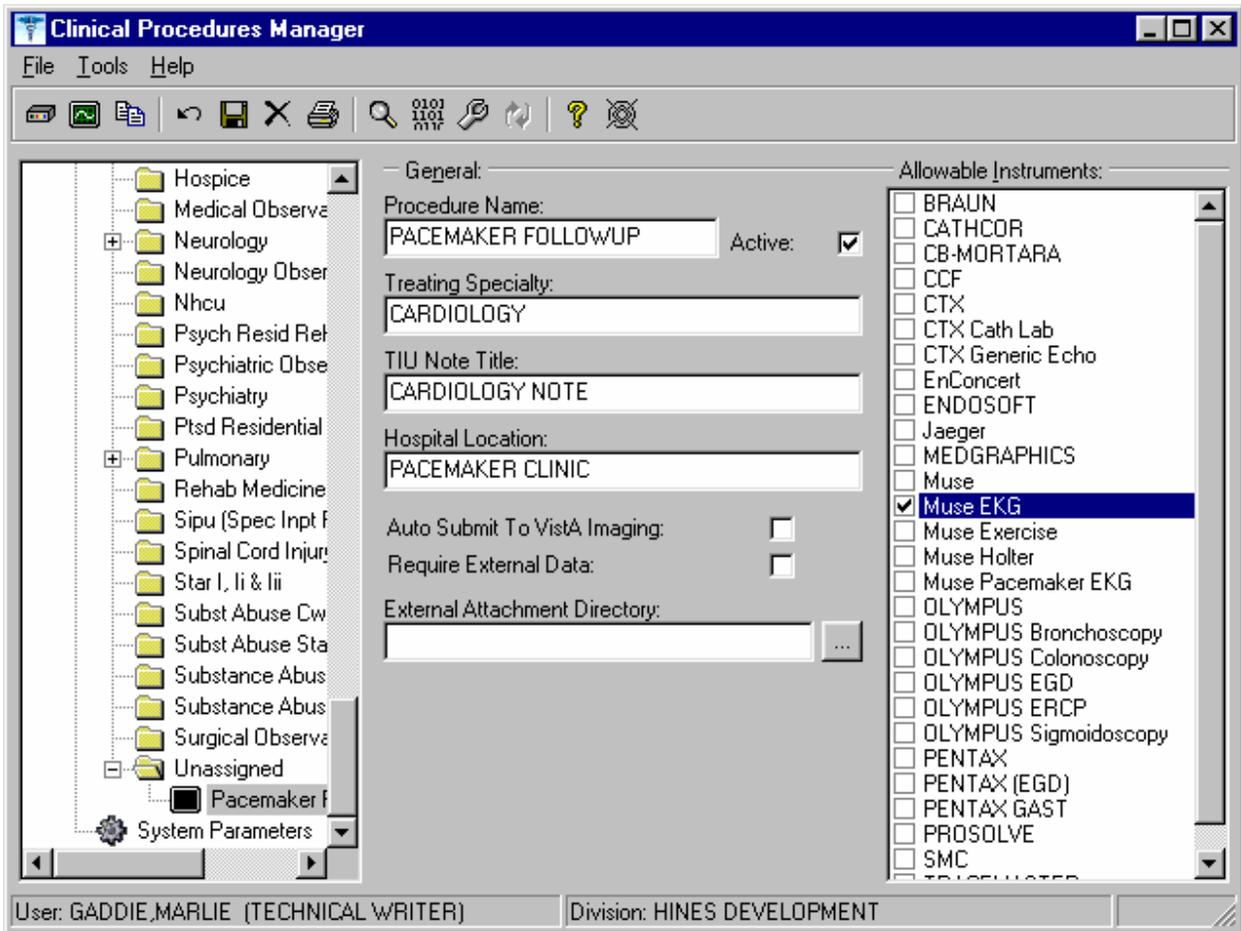

Fig. 6-8
3. Click **OK**. The Edit screen is displayed. Fig. 6-8 is the edit screen for procedures. The Procedure Name that you just entered is displayed in the left side of the CP Manager window in the Unassigned folder.